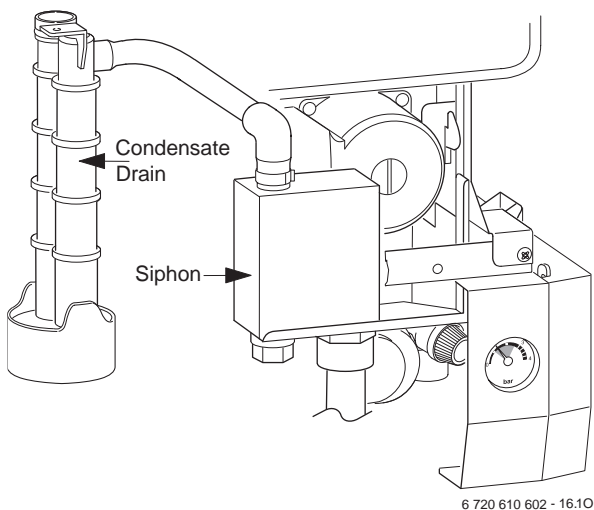

Fig. 56
- Unscrew and remove the siphon by releasing the jubilee clip. Refer to fig. 56.